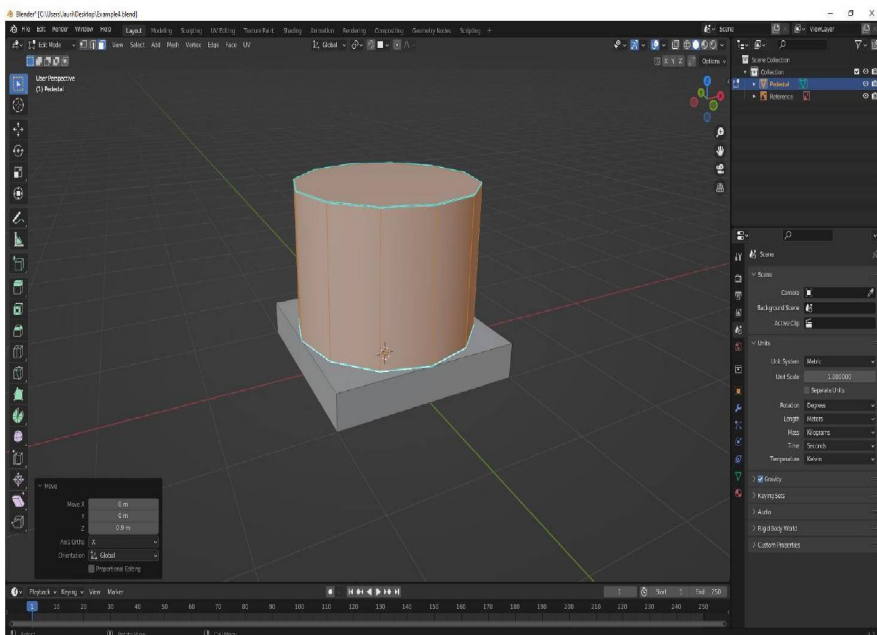

Figure 4.17: With the cylinder's bottom face set to Active, cylinder snapped on top of the cube base
- By pressing the middle mouse button, orbit the view back to the top, scroll back to zoom out if needed, then press **G** then **Z**, then hold **Ctrl** to activate snapping again, and move the cylinder upward until it snaps to the top face of the cube as shown in *Figure 4.17*. Left-click to confirm the operation: